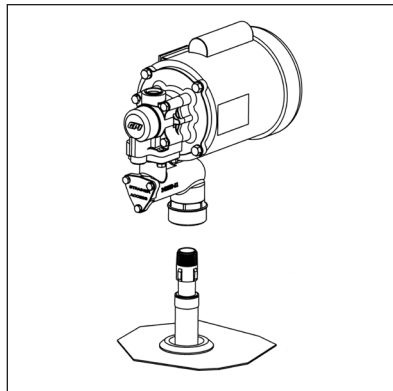

Figure 1
4. Insert the suction pipe through the tank bung. Screw pump into tank bung to secure the pump to the tank. (Figure 1)